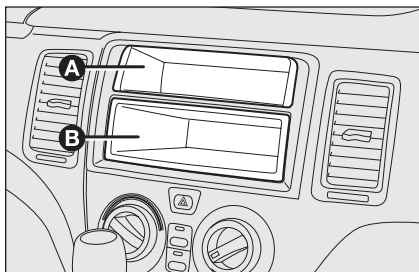

fig. 2
- with fixed oddment compartment **A** and extractable component (DIN) **B** **fig. 2** for installing the sound system;